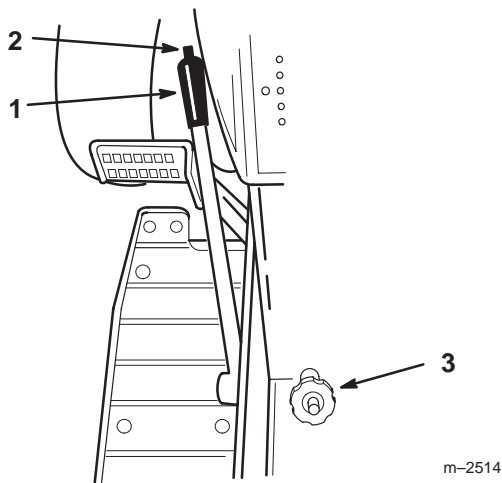

Figure 30
The attachment lift lever (Fig. 30) is used to manually raise and lower attachments.
The Dial-A-Height control (Fig. 30) is used to limit the downward travel of the attachment. The Dial-A-Height knob is rotated to change the location of this stop, up or down.
1. Raise the attachment lift: Refer to Raising Attachments. In the raised position the Dial-A-Height knob (Fig. 30) can be rotated to change the stop location. Turn clockwise to raise and counterclockwise to lower the height of the attachment.
2. The Dial-A-Height indicator (Fig. 30) will show the change, high to low, in attachment lift height as adjustment is made.